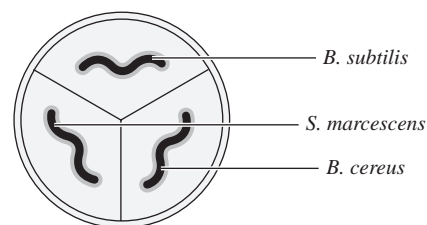

FIG. 10.1. Agar plate.
- Draw the swab once across the agar on all seven plates as shown in Fig. 10.1. Discard the swab in disinfectant solution.
- Repeat this procedure with the other two cultures. When finished, all plates will have a single line of bacteria spread across their surfaces. (See Fig. 10.1.)